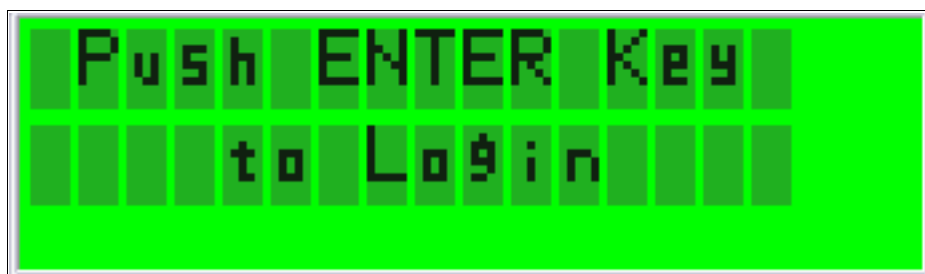

Figure 7-8 TS2900 Tape Autoloader login panel
- ▶ In *Sequential* mode, the library firmware predefines the selection of the cartridges. After initialization, the firmware causes the library to select the first available cartridge found (counting from 1 through 9) for loading into the drive. In Figure 7-8 on page 172, you find the tree structure of the Library mode menu. In combination with Sequential mode, you can turn on two additional modes: autoload and loop.
1. Power on the TS2900 and wait until the hardware and software are initialized and the inventory is finished. This process takes a few minutes. The login window is displayed when the inventory is complete. Figure 7-8 shows the login window of the Operator Panel.